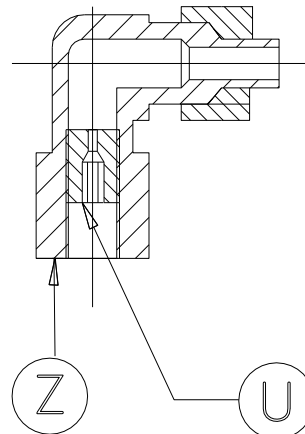

Figure 13.4-3 Nozzle oil recovery
Control and clean the oil recovery is to be performed, should you find a leak of oil mist mixed with air compressed, operating as follows (Figure 13.4-3).
- 1) Unscrew the fitting located at the center of the tank (Letter Z in Figure 13.4-3);
- 2) Inside the ring (Letter Z in Figure 13.4-3) is a nozzle (Letter U in Figure 13.4-3): make sure that its calibrated hole is not blocked (blow with compressed air);